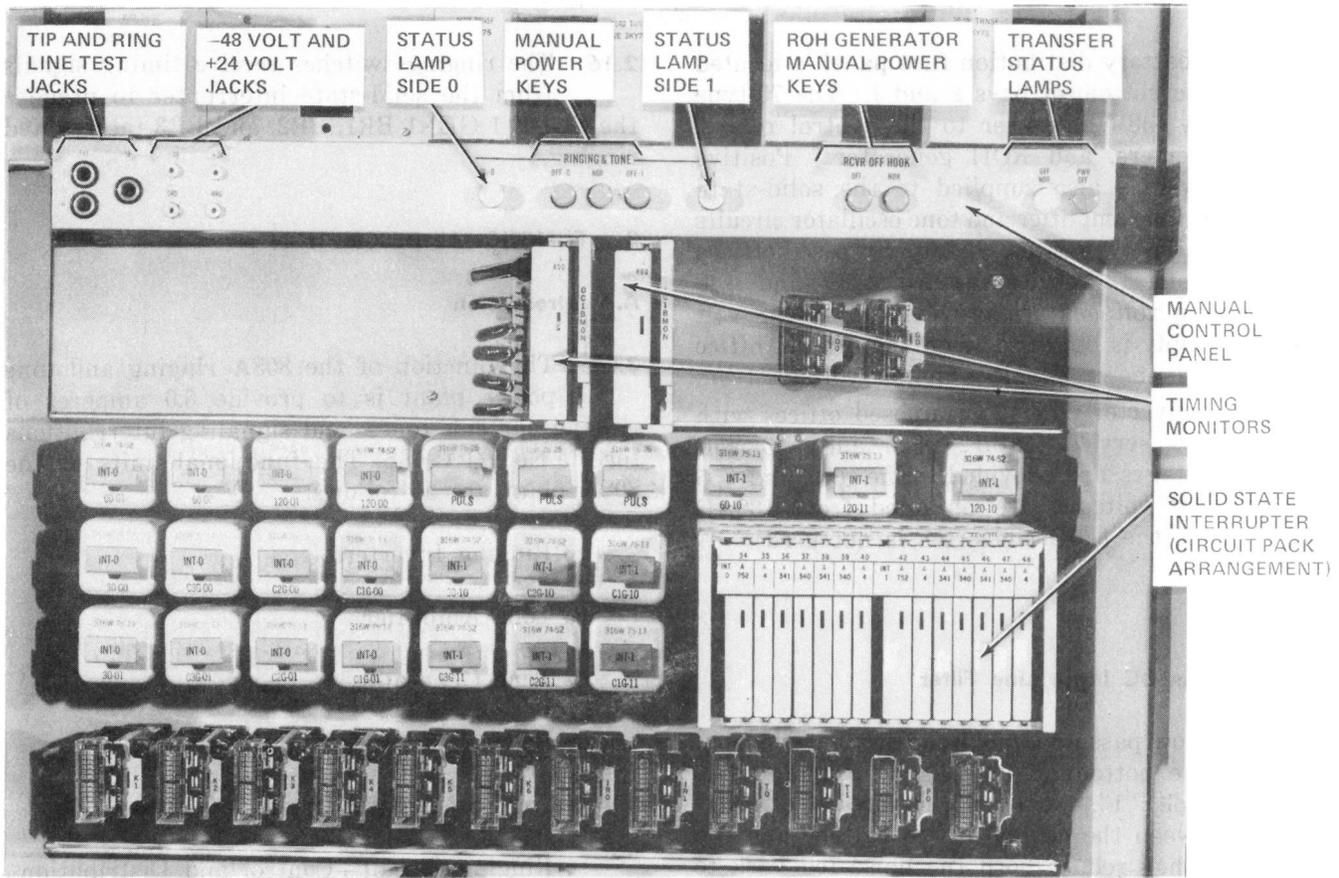

Fig. 3—Manual Ringing and Tone Panel, Timing Monitors, and Solid-State Interrupter—808A
2.05 The manual ringing and tone panel provides ON-OFF switching and status indicators for the 808A ringing and tone plant. Refer to Fig. 3 for arrangement of switches and lamps. Refer to Table B for function of switches and lamps.